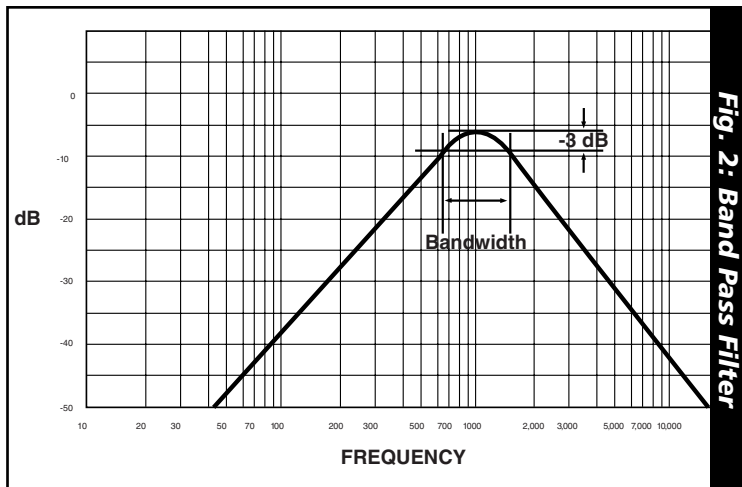

Fig. 2: Band Pass Filter
**The Band Pass** filter acts like Wah pedal and puts a peak in the middle of your signal. (See Fig. 2) This is great for highlighting certain frequency ranges or for creating a sweeping sound with the frequency knob.